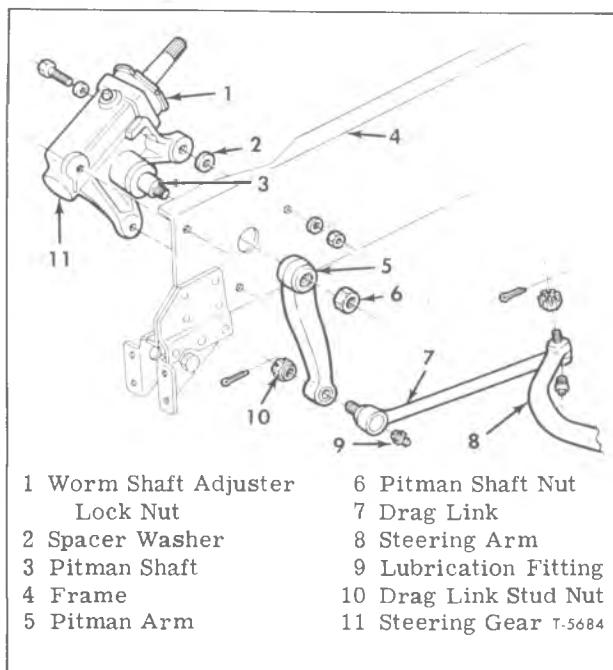

Figure 7—Steering Linkage (Typical)
stall spacer washer (2) between steering gear and frame at rear bolt location as shown in figure 7.
(Refer to Figure 7)